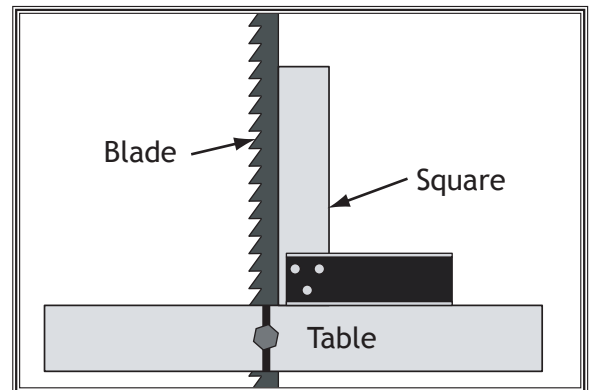

Figure 106. Adjusting table perpendicular to blade (side to side).
2. Place one edge of square on table and other edge of square against blade side, as shown in **Figure 106**.